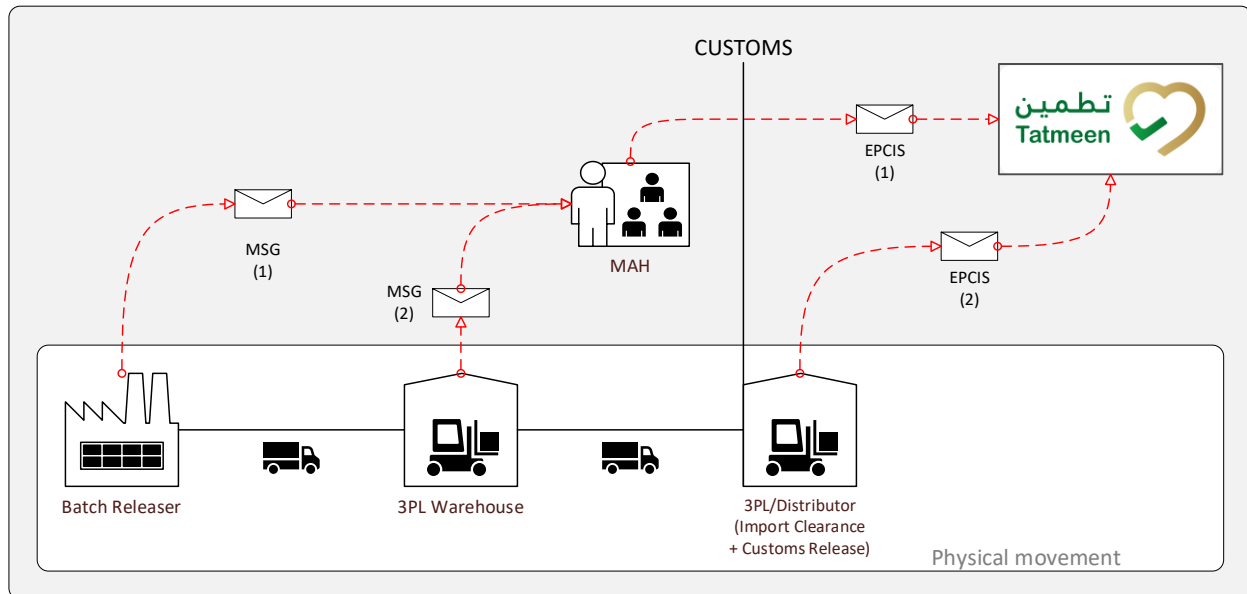
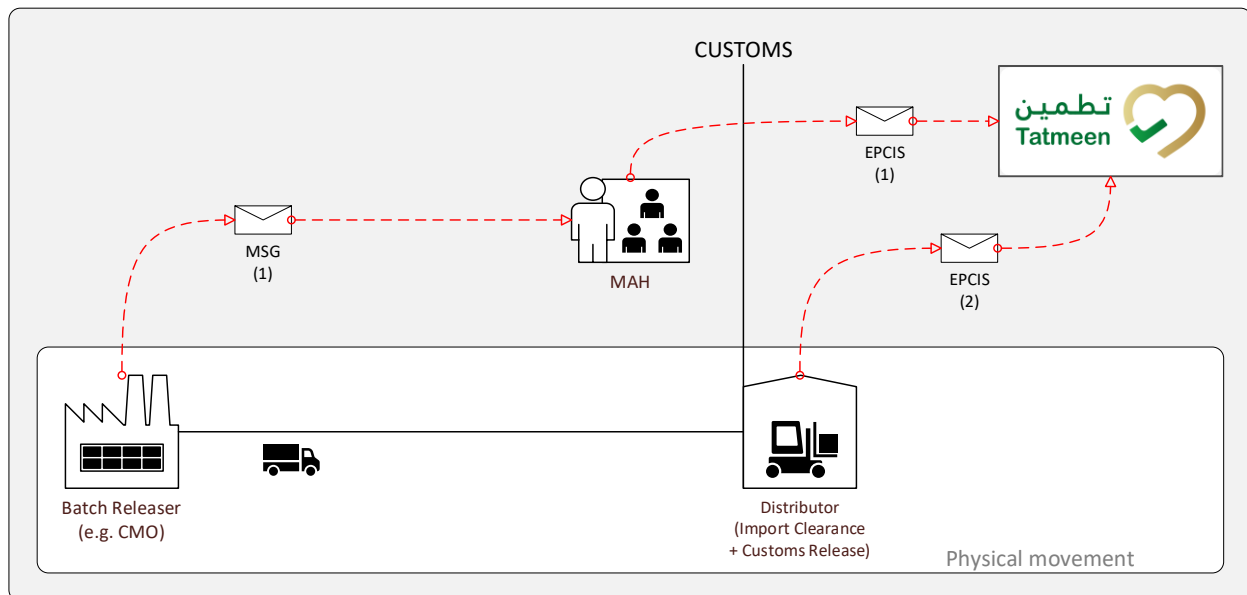

Figure 2 Importing Registered Drugs from International Manufacturers Using 3PL
Figure 3 Importing Registered Drugs from International Manufacturers Directly to UAE Distributor
- Registered Drug Importation using 3PL partners (Figure 2).
- Registered Drug Importation directly to Distributor (Figure 3).
This outline refers to both Figure 2 and Figure 3, above.
2. The Batch Releaser manufactures serialised products and maintains their own records regarding serialised product items, the parent / child relationships of any aggregated product hierarchies, and shipping of those items to another entity. These record details are required to meet the message specifications in Section 4. The foreign manufacturer must also share these records with their relevant MAH prior to importation of those product items into the UAE (see “MSG (1)” in Figure 2 / Figure 3).
3. Any foreign supply chain partner involved with physical storage or movement of serialised product items prior to importation must maintain their own records regarding serialised product items, the parent / child relationships of any aggregated product hierarchies, and shipping of those items to another entity. These record details are required to meet the message specifications in Section 4. The foreign manufacturer must also share these records with the relevant MAH prior to importation of those product items into the UAE (see “MSG (2)” in Figure 2).
The MAH must send a single EPCIS message (“EPCIS (1)” in Figure 2 / Figure 3), each containing the Shipping Import Permit reference; commissioning, aggregation and shipping event for the full / partial shipment.
6. The MAH must notify the Distributor (or where Incoterms dictate, the 3PL) once the importation EPCIS message is successfully sent to the Tatmeen solution. The Distributor (or where Incoterms dictate, the 3PL) must then send an EPCIS message (“EPCIS (2)” in Figure 2 / Figure 3) to the Tatmeen solution to receive the goods into the UAE for customs clearance and federal release. This EPCIS message (“EPCIS(2)” in Figure 2 / Figure 3) is described in the Tatmeen Technical Guide for Logistics and is not described in this document.